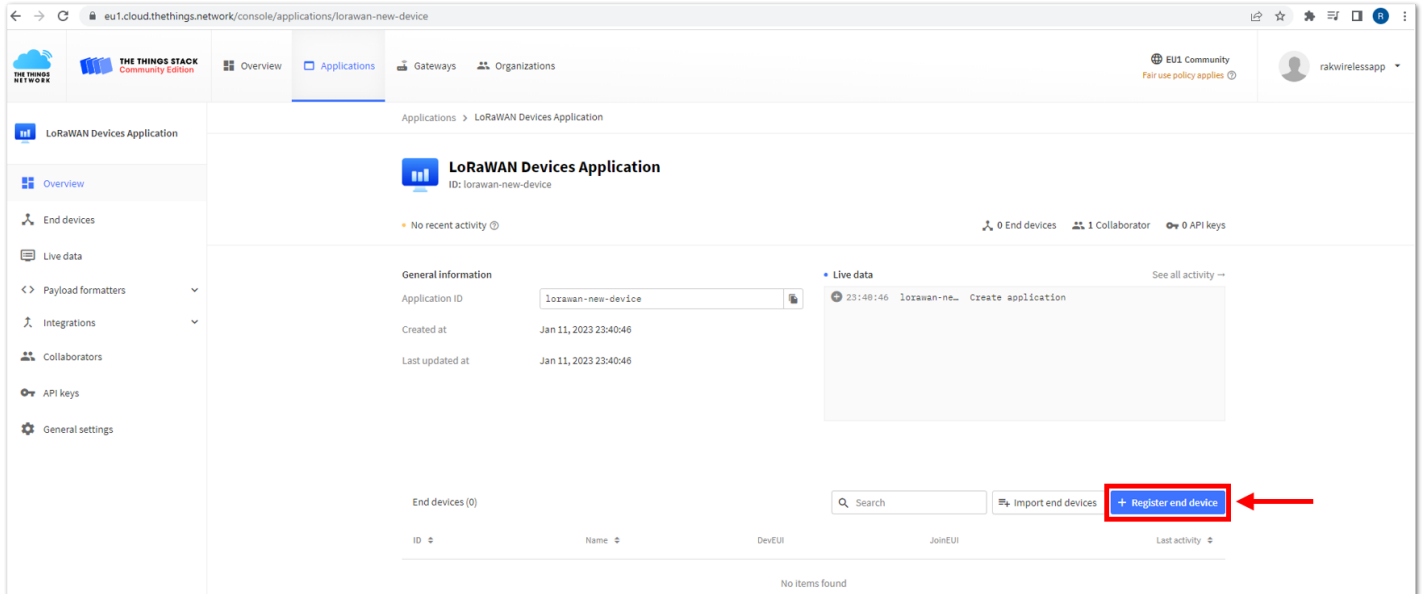

Figure 47: Register end device
1. Go to your application console to register a device. To start adding an OTAA end-device, click **+ Register end device**, as shown in **Figure 47**.